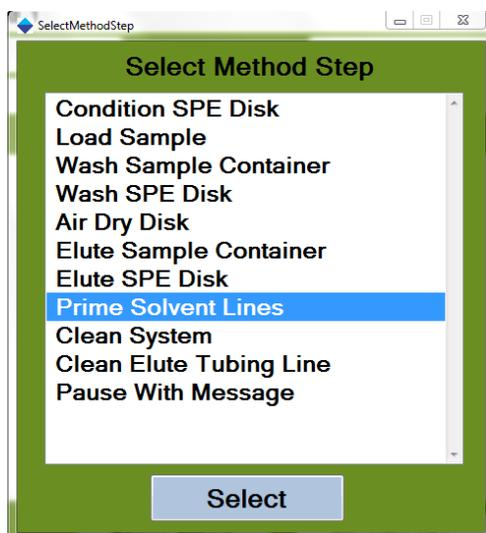

Figure 6-10. Select Method Step Screen
Step 4: Once the above information has been entered, click the *New Step* button. Figure 6-10 will appear, as shown below. In this example, the Prime Solvent Lines step has been selected, as this is the operation that will be used to create a Prime Solvent Lines Method. Prime solvent lines will be used to flush air from each solvent line before operation starts.